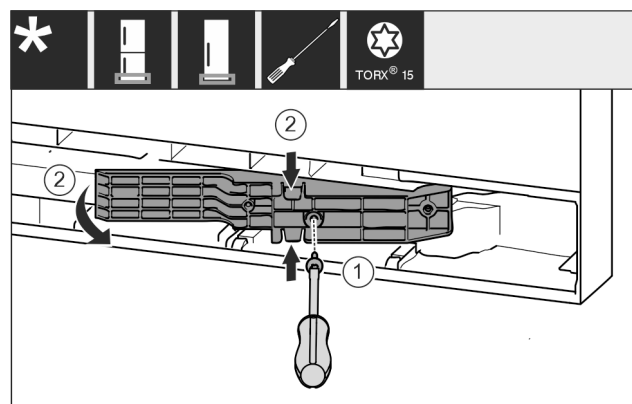

Fig. 16 *
- Loosen the screws with a T15 screwdriver. Fig. 16 (1)*
- Pull out the adapter. Fig. 16 (2)*